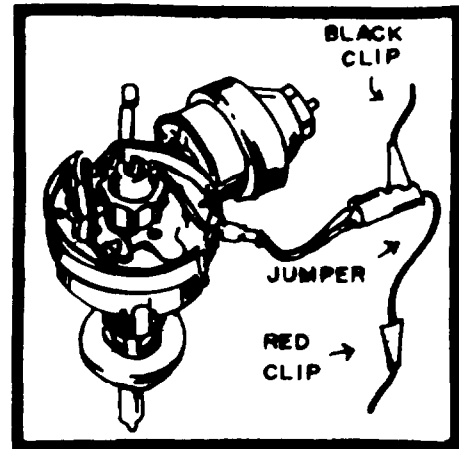

Fig. 86
1. To check the distributor pulse. -Fig. 86.